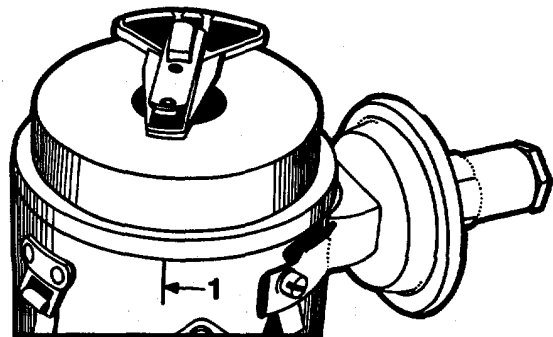

Fig. 6. Rotor Position Reference Mark
5. Scribe a mark on distributor housing in line with tip of rotor (Figure 6) and note position of rotor and distributor housing in relation to surrounding engine parts as reference points for reinstalling distributor.